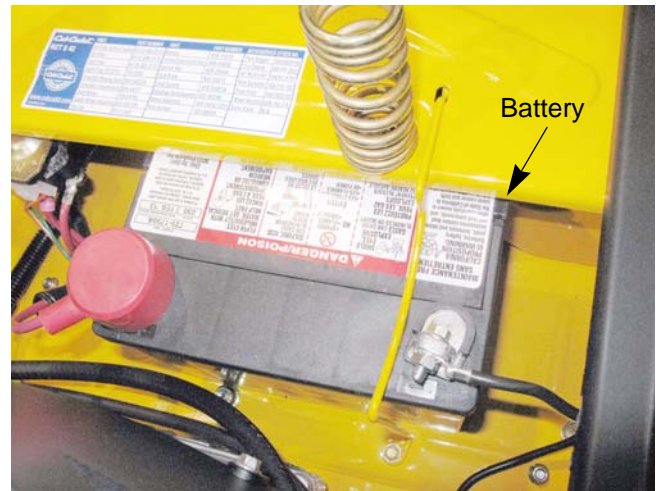

Figure 4.16
3. Remove the battery. See Figure 4.16.